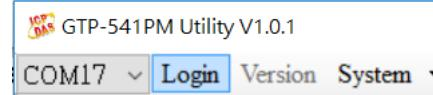
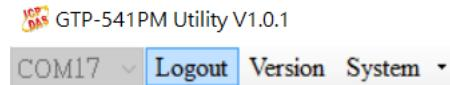

Figure 6.10.18
Figure 6.10.19
B. Click “Login” on the Utility screen. As shown in Figure 6.10.18, if the connection is successful, the “Login” button will change to “Logout”, as shown in Figure 6.10.19